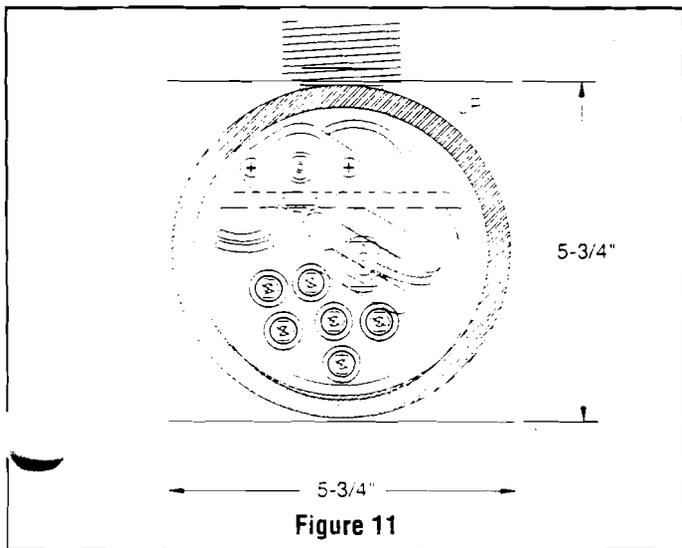

Figure 11
1. The manual high temperature control is located in the heating element hazardous location enclosure on the heat exchanger which is covered by the sheet metal housing attached to the side of the unit. To gain access, remove the four sheet metal screws holding the sheet metal cover in place and unthread the cast aluminum enclosure lid. The high limit control can now be serviced. (See Figure 11). The manual high temperature control device has a small reset button protruding from the center of its back housing. Depress this button in to reset the control. Replace the aluminum enclosure lid and sheet metal cover.